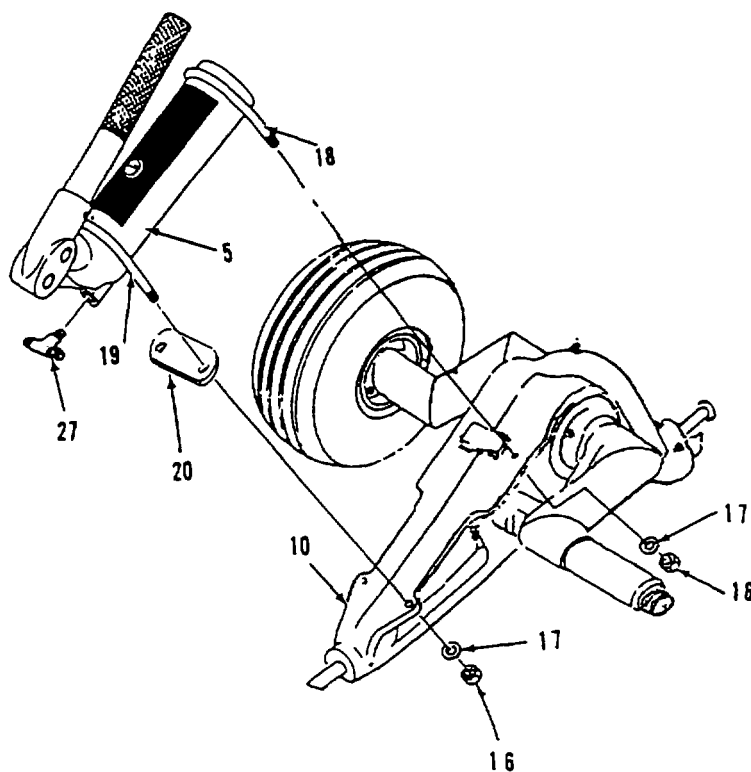

Figure 3-6. Hydraulic Pump, Part No. 61780
1. Refer to figure 3-6 and install Hydraulic Pump (4), with part number 61780.
- a. Position hydraulic pump (4) on cradle assembly (10) and align mounting holes
- b. Insert bolts (25) through holes in pump mounting plate and hydraulic fitting guard; attach with washers (17) and nuts (26).
- c. Install bolt (18) over pump (4) body and insert through holes in cradle, attach with washers (17) and nuts (16).
- d. Install tee fitting (27), wrapped with Teflon Tape (item 8, Appendix D), in reducer/metering valve in pump.
- e. Connect hose assemblies to both sides of tee fitting (27), but do not tighten completely at this time. Ensure that hoses do not rub on wheels.